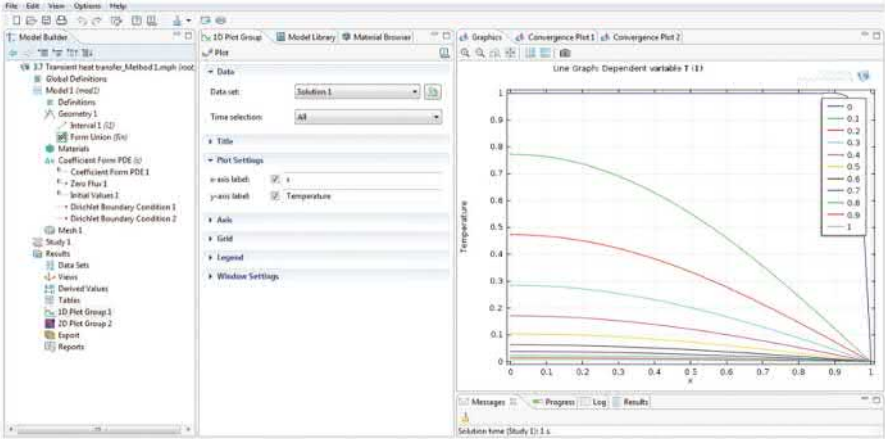

FIGURE 3.17 Solution of heat transfer problem [see Equation (3.22)].
- Now, go to *Study* option in the model pellet tab. Click on the *Compute* (=) button. A graph will appear giving the profile of *Temperature versus x* as shown in Figure 3.17.